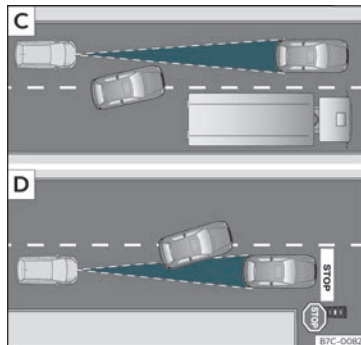

Fig. 160 [C] Vehicle changing lanes. [D] One vehicle turning and another stationary.
- Vehicles that move into your lane, a short distance from your vehicle»» Fig. 160 [C].
The ACC may not react to stationary vehicles. If, for example, a vehicle detected by the ACC turns or moves over and there is a stationary vehicle in front of it, the ACC will not react to the second vehicle»» Fig. 160 [D].